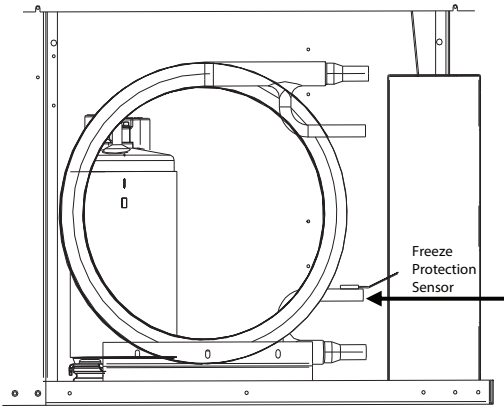

Fig. 9 - Freeze Protection Sensor Location
The default freeze limit trip is 26°F, however this can be changed to 15°F by cutting the R30 or Freeze1 resistor located on top of DIP switch SW1 (Refer to Fig. 8, item (3) for resistor location), Refer to Fig. 9 for sensor location.